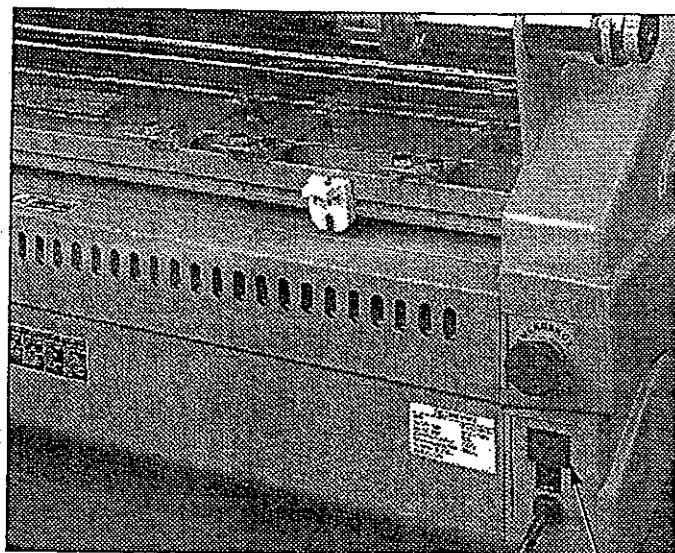

Fig. 7
1. Turn the laminator on (I) at the main power switch located at the back of the machine (Figure 7).
4. Do not begin laminating until the **READY LCD** illuminates. The normal warm-up time is approximately ten (10) minutes.
10. If the unit is not used for more than three (3) hours it will go into **STAND BY** and reduce the heat to 180°F (82°C) and **STAND BY** will illuminate. If an additional one (1) hour of nonuse is detected, the unit will shut off completely and **STAND BY** will begin flashing. To reset the preheat mode press the **STAND BY** button.